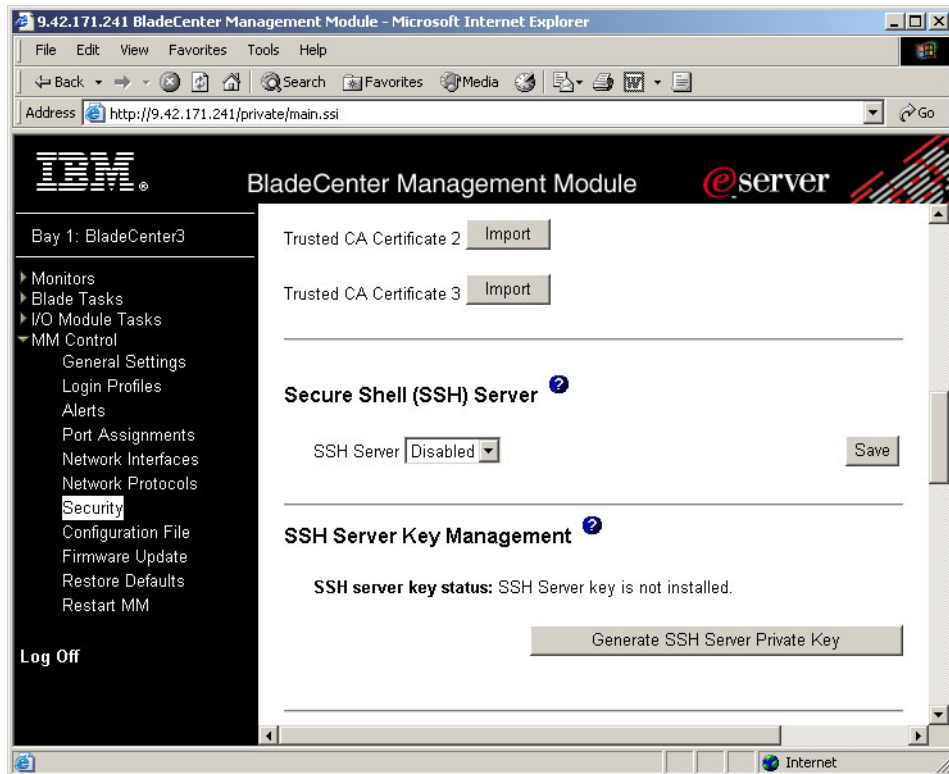

Figure 5-5 Secure Shell (SSH) Server - BladeCenter management module
2. Click **ASM Control** or **MM Control** → **Security**. Figure 5-5 appears.